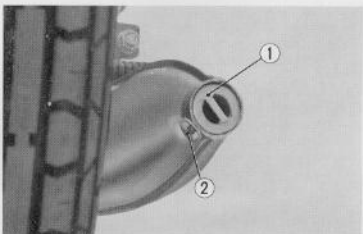

Fig. 4.65 Removing diffuser pipe
3. The diffuser pipe can be removed by unscrewing the 6×8 hex bolt; however, the diffuser pipe is not removable on the USA export models. (Fig. 4.65)